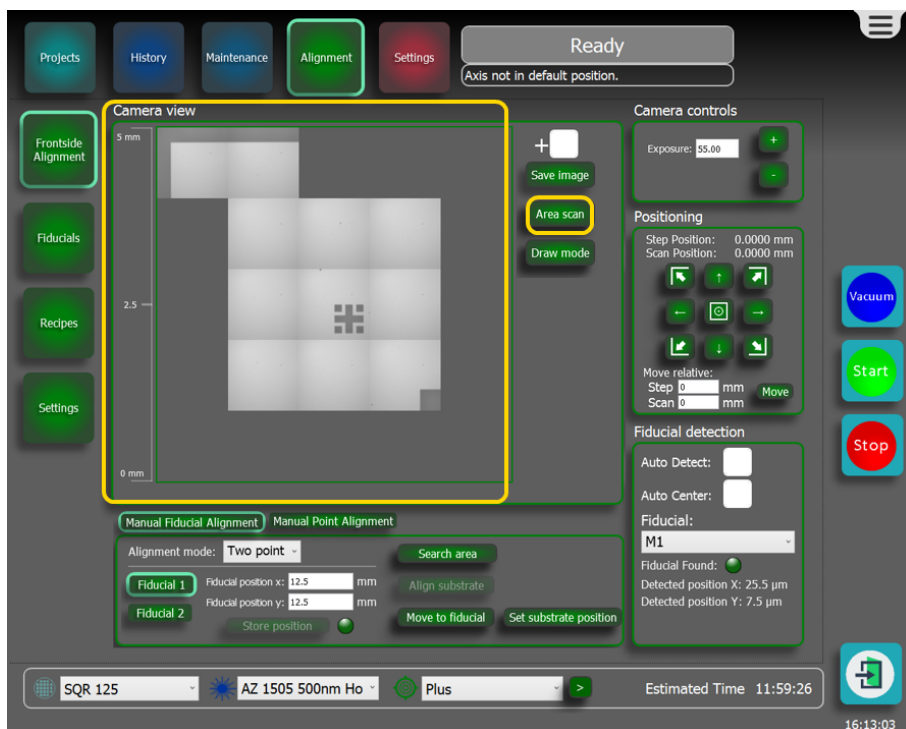

Figure 3-100 Area scan
7. If the fiducial marker is not immediately visible, click on **Area scan**, see Figure 3-100.